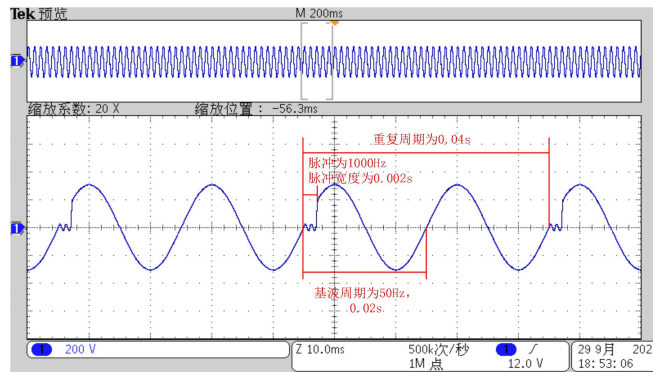

Figure 88 Pulse Programming Waveform Example Diagram
- 5) Click 'Trigger' to display the programmed waveform on the oscilloscope (only the $\phi 1$ waveform is shown here); see Figure 88.